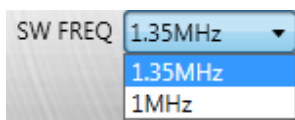

Figure 16: Switching Frequency Setting
14. Set the switching frequency (see Figure 16). Its range is 1.35MHz or 1MHz, and the default value is 1.35MHz.